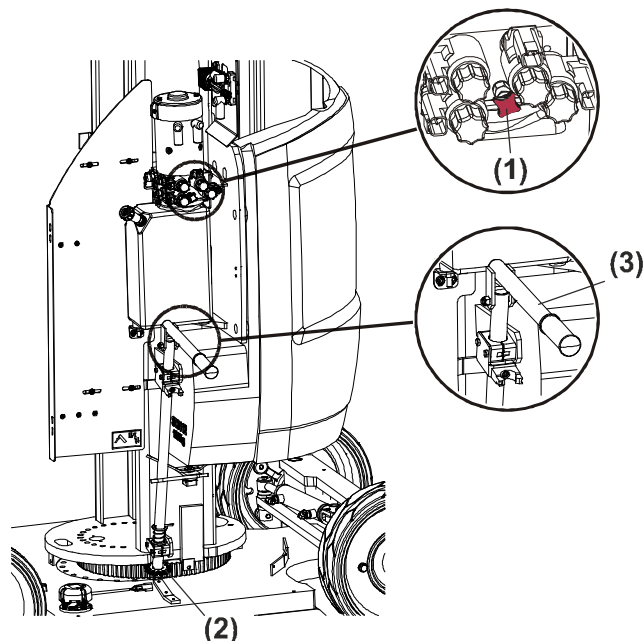

Figure 3-14. Manual Swinging Operating Devices - 10E/26E
- a **rotary valve (1)** located on the pump/motor control valves assembly to release the swinging motor (Refer to Figure 3-14.).
- a **pinion (2)**, located below the pump/motor control valves compartment, that can be operated using the **folding lever (3)**.